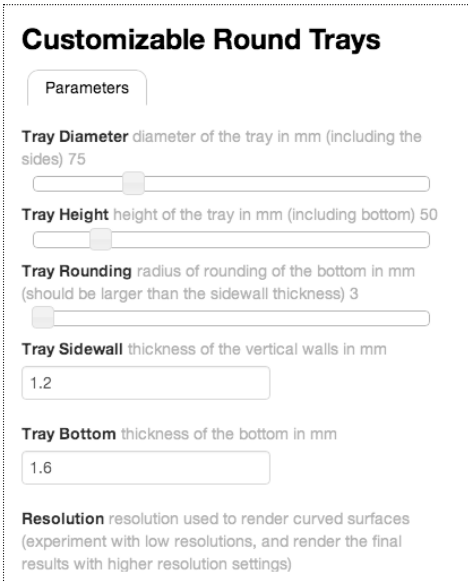

Fig. 13.3
6. In the Parameters tab, we can edit the following parameters [Fig. 13.3]:
Resolution: Specifies STL resolution. In our example, select Medium. [Fig. 13.3]